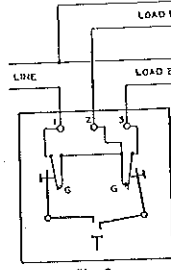

Fig. 3
- (2) Two stage heating in which the process is fired by two sets of burners or heaters to provide quick recovery with a minimum of overshoot. One control point is set at a somewhat lower point than the temperature to be maintained. Should a drop in temperature occur below this lower setting, maximum heat will be supplied. As the temperature rises above this point, the rate of heating is reduced, thereby minimizing overshoot. Temperature will then be maintained by controlling the lesser heating rate. (See fig. 3 on page 3.)